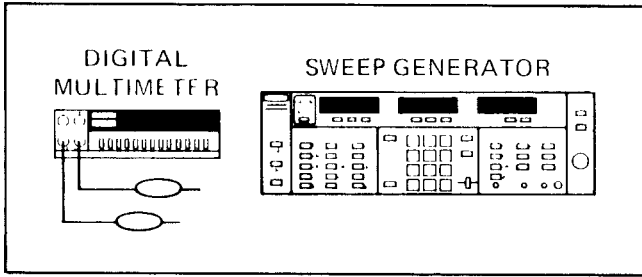

Figure 5-9. Setup for A5 Frequency Instruction Adjustments
1. Set up the test equipment as shown in Figure 5-9 and turn the equipment on.